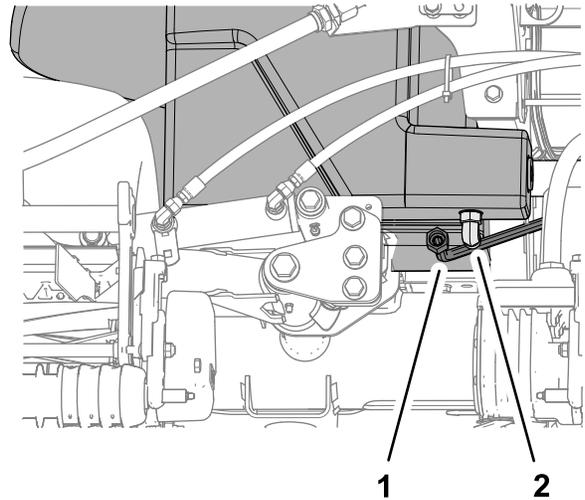

Figure 119
2. Place a large drain pan under the 90° fitting (Figure 119) of the hydraulic tank; refer to Hydraulic Fluid Capacity \(page 69\).